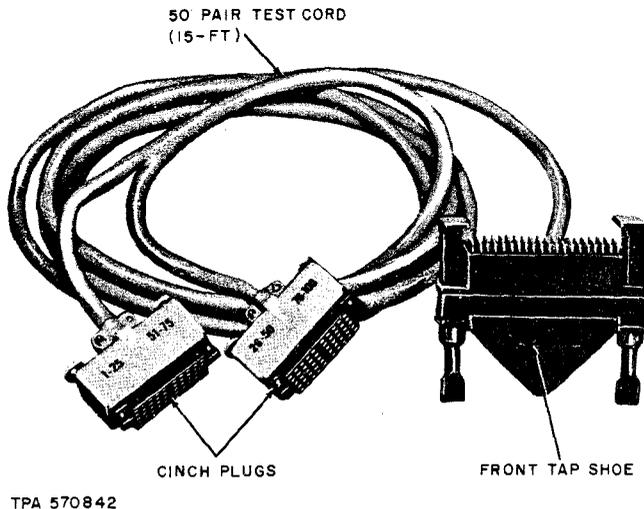

Fig. 1—Front Tap Shoe
**2.01** C-4920 and C-4930 Multiple Pair Test Connectors (Fig. 1) consist of a plastic shell in which 100 gold-plated test pins are housed and connected internally to the jacketed 50-pair test cord. The